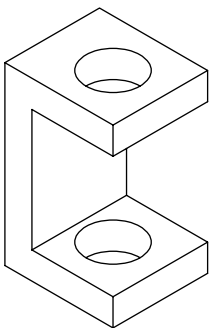

Fig. 7.22 First example – isometric drawing
### First example – isometric drawing (Fig. 7.22)
5. Set the isoplane to Isoplane Right and with the **Copy** tool, copy the top with its ellipse vertically downwards 3 times as shown in Fig. 7.22.
7. Finally using **Trim** remove unwanted parts of lines and ellipses to produce Fig. 7.22.